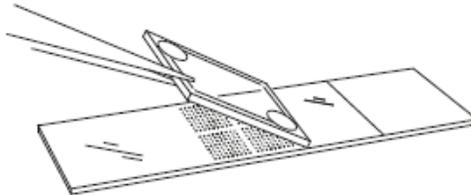

Figure 7
1. As shown in Figure 7, grasp the edge of the chamber firmly and peel the Secure Seal away from the microscope slide.